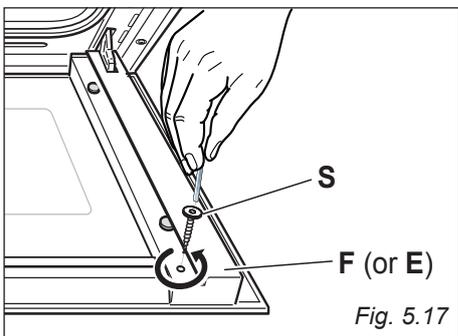

Fig. 5.17
- Unscrew and remove the hex screw "S" fitted on left "E" or right "F" slide guide, above the top edge of the inner glass (fig. 5.17).